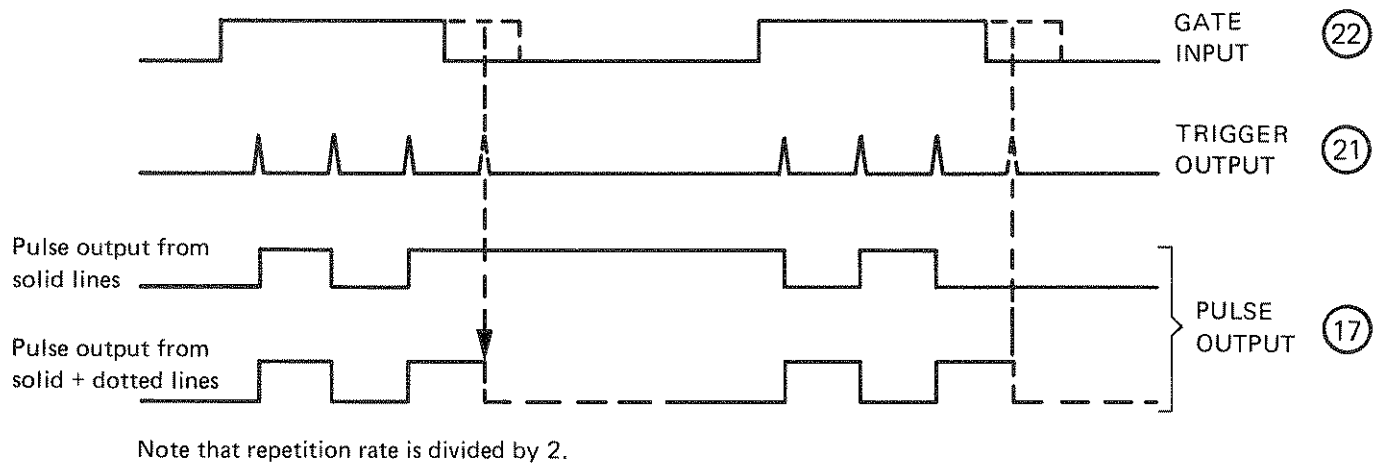

Figure 3-15. Gated output in square wave mode
3-35 The output pulses obtained in any of the preceding operating modes can be gated by applying an appropriate pulse to the GATE INPUT (22). If square wave mode is gated, the level of the pulse baseline after the gate has closed depends on the number of pulses during the gate 'on' time (see figure 3-15). The gate input must meet the following requirements: